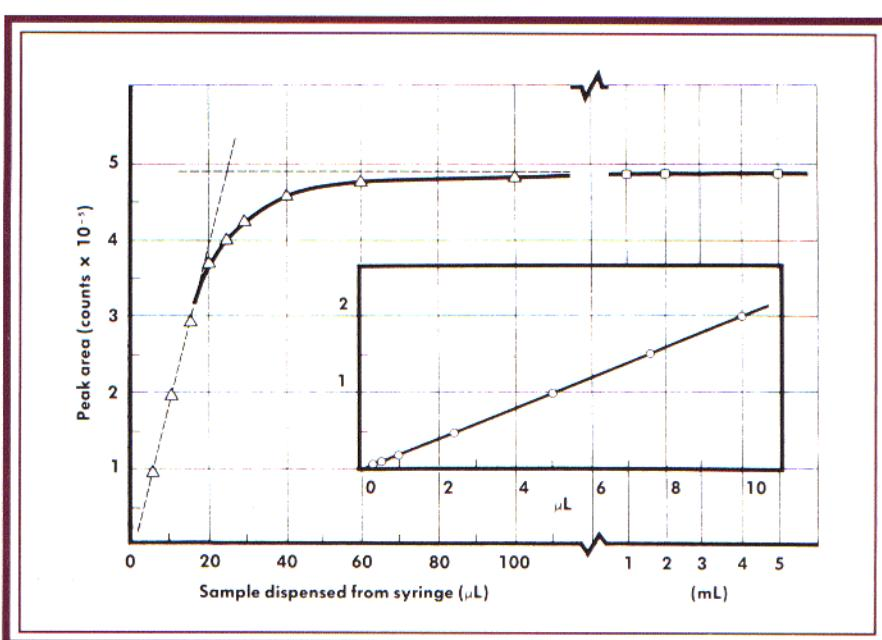

FIGURE 1: Linearity of filling of a sample-injection loop. (Courtesy of Rheodyne, Cotati, California.)
Precision problems can arise from poor method design. Improper loop filling has been discussed (2) but bears repeating here. Figure 1 illustrates the filling characteristics of a typical sample-injection loop. In this case, a 20- $\mu$ L loop was used; various aliquots of sample were placed in the loop (x-axis) and the corresponding signal measured (y-axis). The plot is linear below  $\sim 60\%$  of the loop volume. A steady response for a full loop was not obtained until the loop had been flushed with  $\sim 300\%$  of its nominal volume. Between 60% and 300% of the nominal loop volume, the response curve is nonlinear. This nonlinear region exists because of the laminar